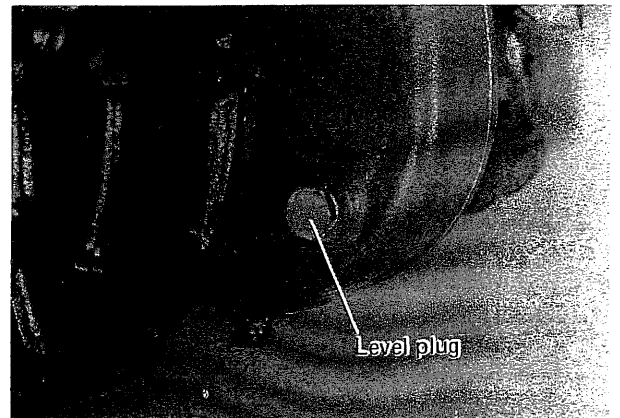

Fig. 12
- (4) Refill capacity of power distributor is 2.0 liters. Remove level plug and check that fluid is at lower brink of level plug hole. (Fig. 12)